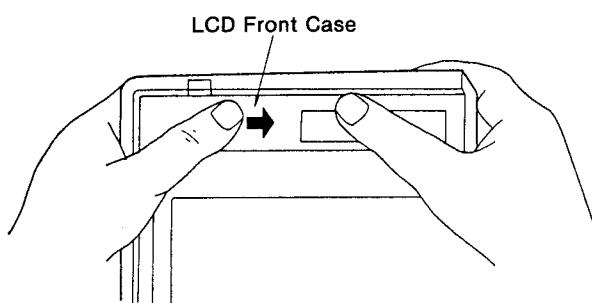

Figure 28
- (5) Stand the LCD on its side so that the contrast control switch is on top and facing you. Slowly slide the LCD front case over (approx. 2mm) from the LCD rear case in the direction of arrow as shown in Figure 28.